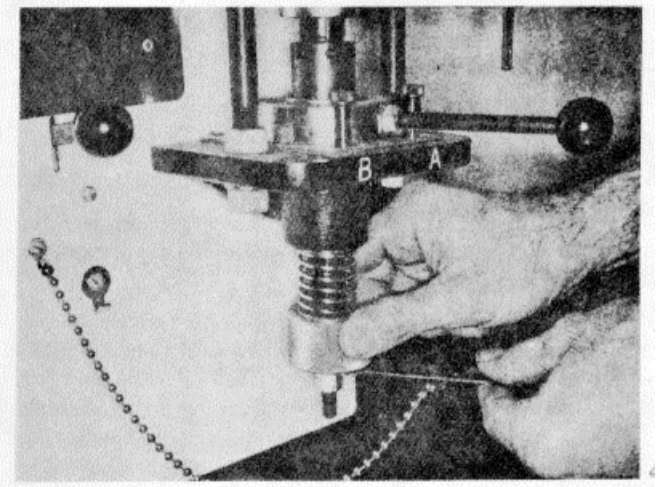

Figure 16H-33. Adjusting the Knurled Nut for Feeler Gauge Clearance
9. Tighten the T-handle clamp, Figure 16H-34